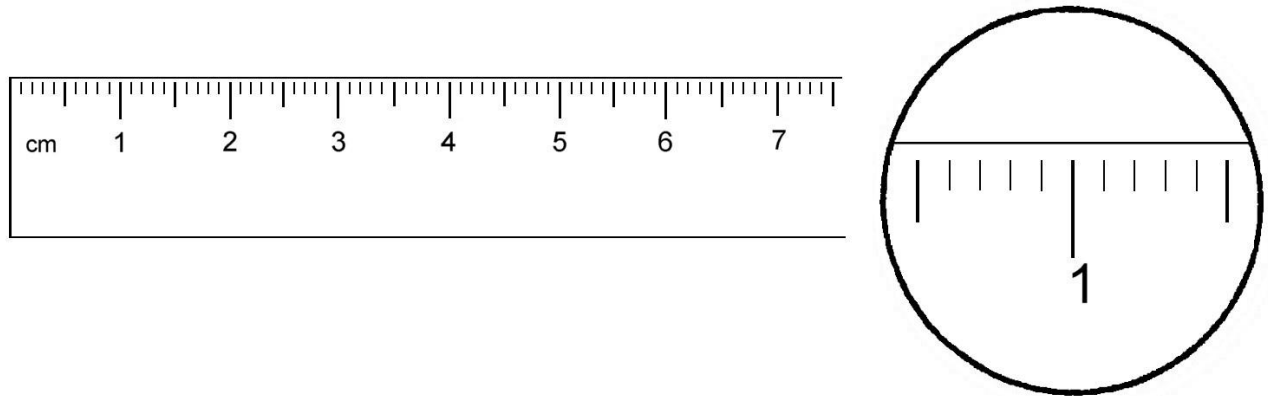

FIGURE 1
Scientists use microscopes to study things that are too small to be seen with the unaided eye. The size of microscopic organisms can be estimated using the method given here. The approximate size of the field of view seen under low power can be determined by actual measurement. A transparent millimeter ruler is placed across the field of view as shown in FIGURE 1.
2. How many microns wide is the low-power field shown in FIGURE 1? _____